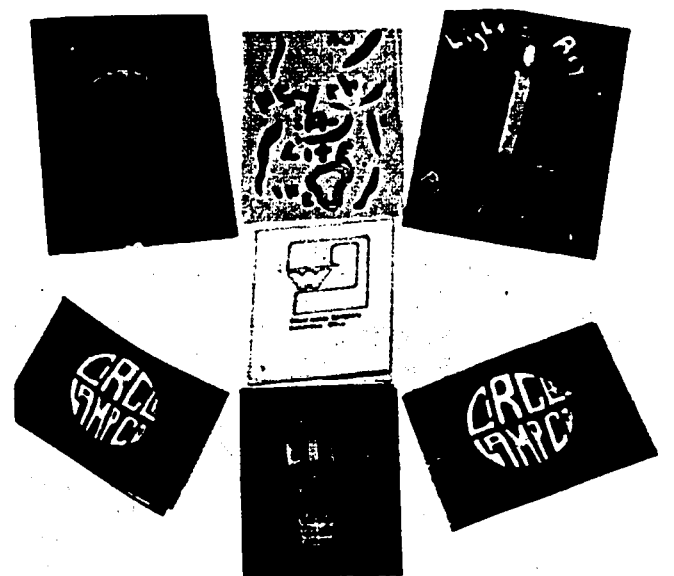

Fig. 169-3. Assorted Logo Booklets
5. Fig. 169-3 shows several cover designs and shapes. Different shapes should be considered for good classes to figure out the layout and page numbers for a shape other than that given in the Laboratory Manual. For instance, a class could: